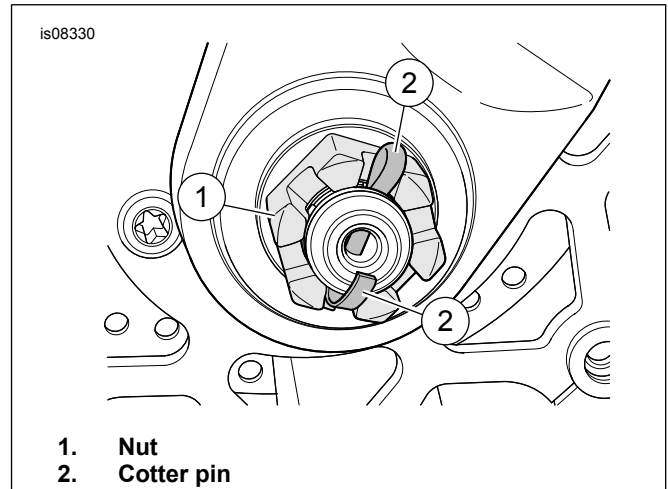

Figure 1. Nut and Cotter Pin
4. **Models with cotter pins:** See Figure 1. Verify that cotter pin (2) is positioned as shown.